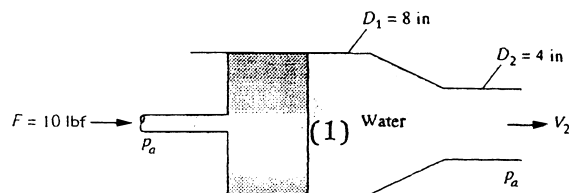

Fig. P3.174
3.174 In Fig. P3.174 the piston drives water at 20°C. Neglecting losses, estimate the exit velocity V_2 ft/s. If D_2 is further constricted, what is the maximum possible value of V_2 ?